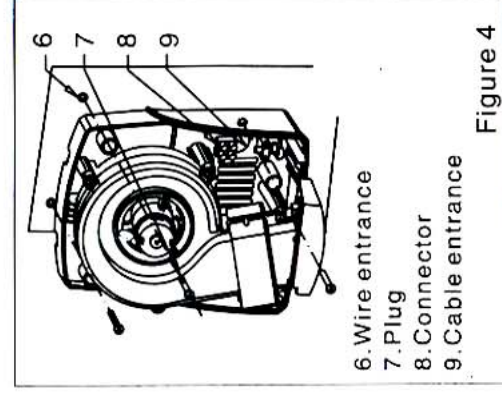

Figure 4
3. Fix the base on the wall by using the plugs and screws attached. (Figure 4)